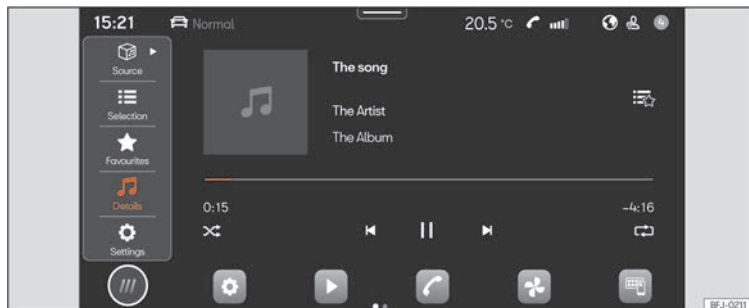

Fig.152 Schematic representation: Multimedia view
- Press **HOME** > ► >>> **Fig. 152**.